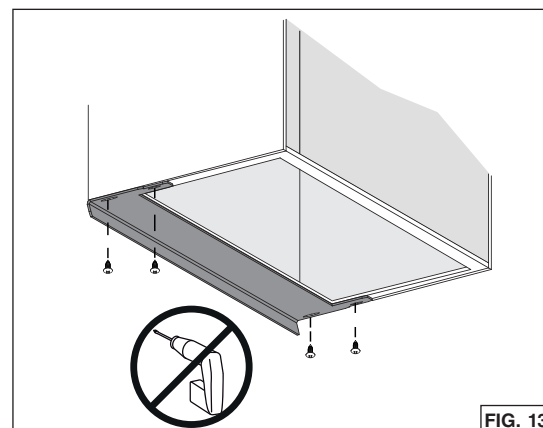

FIG. 13
8. There are 3 different sizes of filler included with these units, designed to fit up to 13-in. depth cabinets. For up to 15-in. depth cabinets, another set of 4 fillers is available (for BBN2243SS unit, order: HADTBN24, for BBN2303SS: order HADTBN30). Choose the filler that fits to cover the back bottom edge of the cabinet. Use 4 no. 6 x 3/4" truss head wood screws (included) to mount it (FIG. 13).